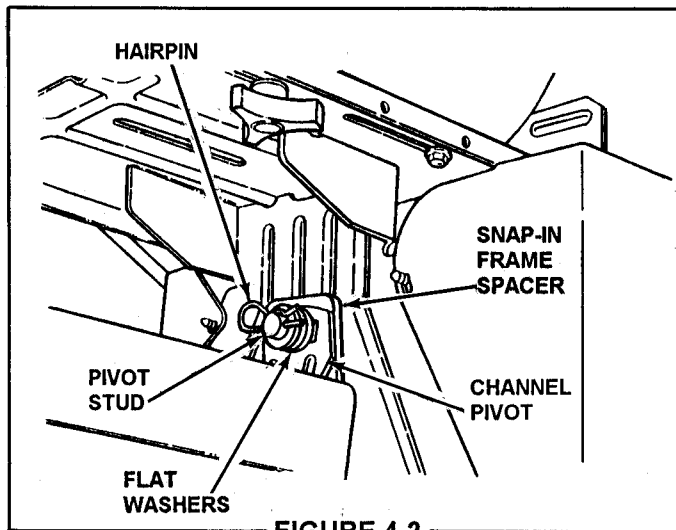

FIGURE 4.2
- a. Remove hairpin and flat washers from pivot stud. See Figure 4.2.
- d. Re-install the required amount of flat washers removed in step "a." and install hairpin. Refer to Figure 4.2. Retain any remaining spacers for readjustment when a new belt is installed.